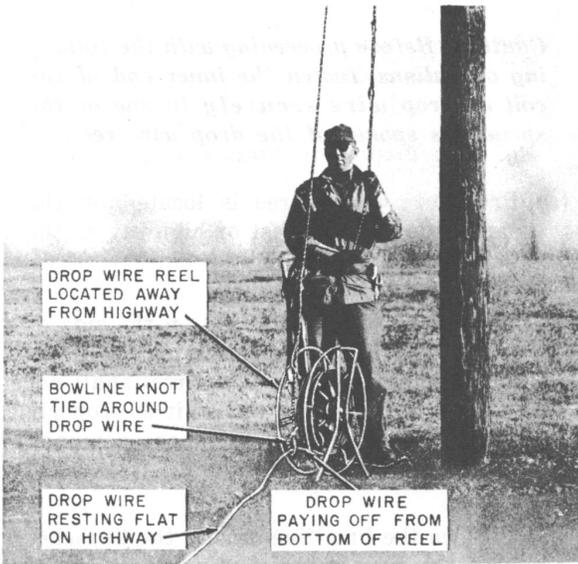
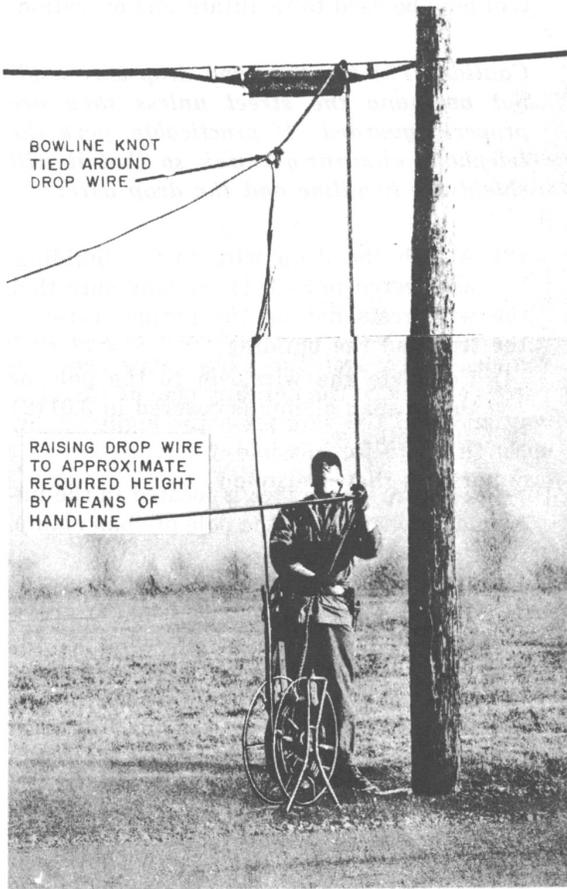

Fig. 3 — Bowline Knot Placed Around Drop Wire
Fig. 4 — Raising Drop Wire
(2) Place a handline over the strand, guard arm, drive hook, or crossarm so that both ends reach the ground, with no excess length in that portion of the handline toward the building. If practicable, the handline may be formed into a coil at one end and thrown over the strand. After the handline has been placed, tie it to the base of the pole or the lower rungs of the ladder to avoid interference with pedestrians or vehicles. If it is necessary to climb the pole or ladder to place the handline, install any drop wire support that is needed.
(3) Roll or carry the drop wire reel from the building to the building side of the street or highway, paying out the wire along the ground with sufficient slack to ensure that the wire rests flat on the ground.
(4) When no traffic is approaching, roll or carry the drop wire reel across the street or highway to the previously placed handline, paying out the wire so that it rests flat on the ground. If a metal or hard rubber-tired vehicle passes over the wire, carry the drop wire reel back to the building side of the highway and pull the wire from the highway. Inspect the wire for possible injury and replace any portions that are found to be damaged.
(5) Release the handline from the base of the pole or ladder and tie a bowline knot in the end of the handline toward the building and around the drop wire at the reel as shown in Fig. 3, being careful not to raise the wire above the highway. Wind any excess length of drop wire on the reel.
(6) Set the brake of the drop wire reel so that when the wire is raised by the handline there will be sufficient tension on the wire to enable it to be pulled up to the approximate required height in the span over the street or highway.
(7) After checking to make sure that the drop wire reel is in a stable position and that its brake is properly set, grasp the free end of the handline. When no vehicles or pedestrians are approaching, raise the drop wire as shown in Fig. 4. If it is necessary to remove excess slack from the wire span as it is being raised, pull the wire at the reel end to obtain the desired slack and wind the excess length of wire on the reel.